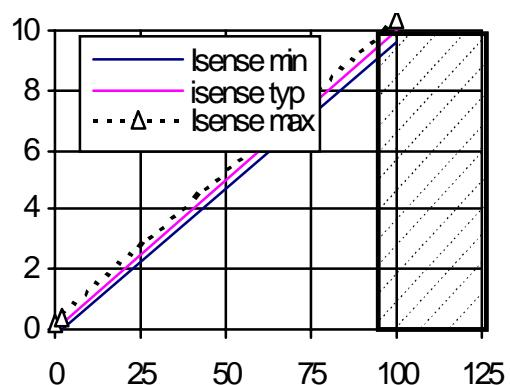

Figure 10 - I_{sense} (mA) vs I_{load} (A)
- Choose R_{st} to get I_{sd} by mean of fig. 10 curve or using the following formula